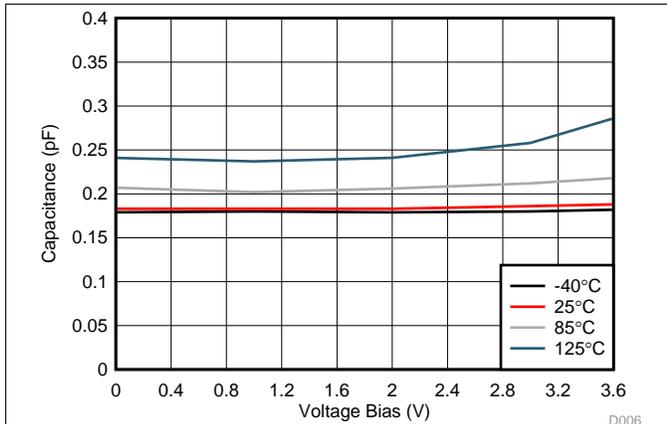

Figure 7. Capacitance vs. Bias Voltage (DPY Package)
• Added <a href="#">Figure 7</a> .....	6